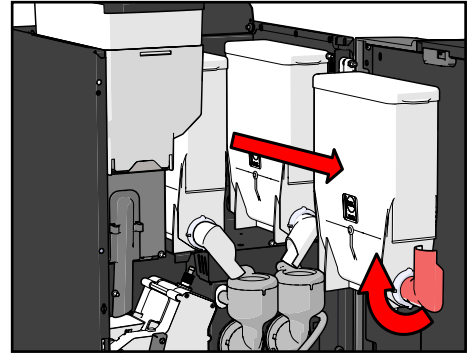

Figure 52.
4. Turn the canister spouts up, and remove the canisters one by one (see Figure 52).